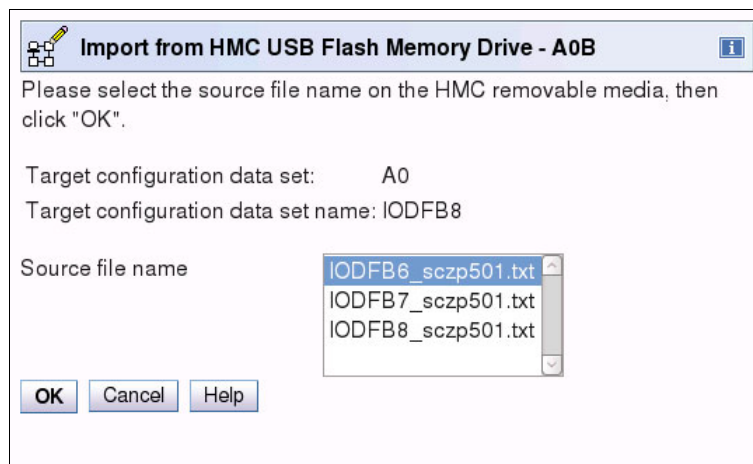

Figure 7-85 HMC - SAIOCP: select source file
13. Select the source file name and click **OK** (Figure 7-85).